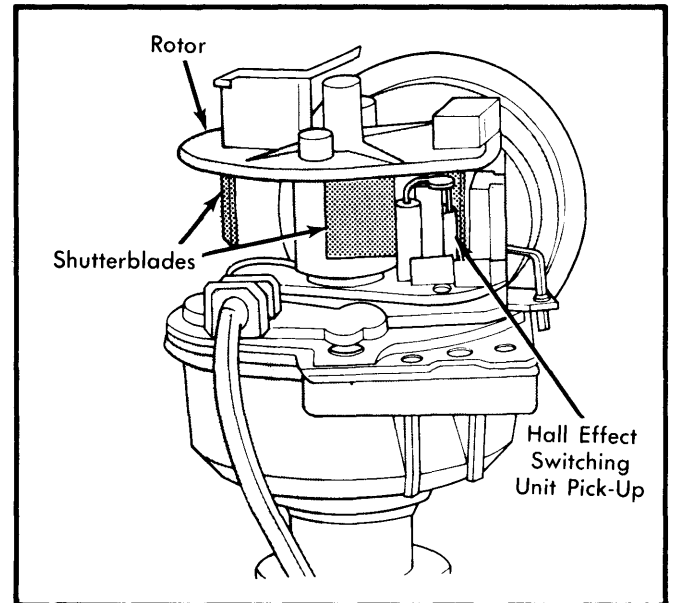

Fig. 2 Components of Hall Effect Distributor for Electronic Spark Control System
The computer used with the spark control system eliminates need for either vacuum advance units or centrifugal advance weights. The Hall Effect distributor is connected to the rest of the system by a 3-terminal connector. See Fig. 2. It sends small alternating current signals to the computer as rotor shutter blades enter and leave the gap in the Hall Effect switching unit pick-up assembly.
11) If spark resulted, but engine will not start, replace Hall Effect pick-up. Before replacing pick-up, however, always be sure rotor shutterblades are grounded. Connect one ohmmeter lead to a good ground and touch other lead to shutterblade. See Fig. 2. If no continuity is indicated, push down on rotor to seat against shaft. If still no continuity, replace rotor. If shutterblade is grounded, then proceed to replace Hall Effect pick-up.